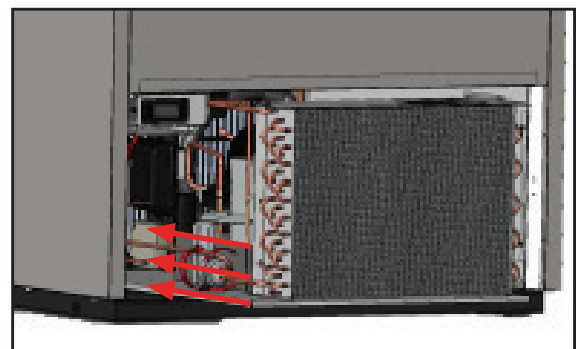

Fig. 7. Replace the condenser assembly.
10. Carefully slide the compressor assembly back into position and replace the bolts. See fig. 7.